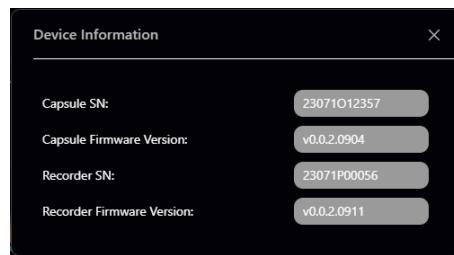

Figure 4-18 Device Information
- **Device Info:** Open a tab displaying the information of the currently associated device (Figure 4-18).